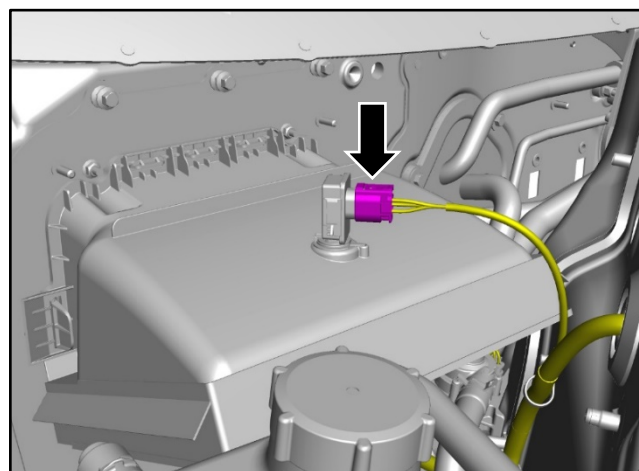

Figure 32
22. Connect the electrical connector. (refer to Figure 32).